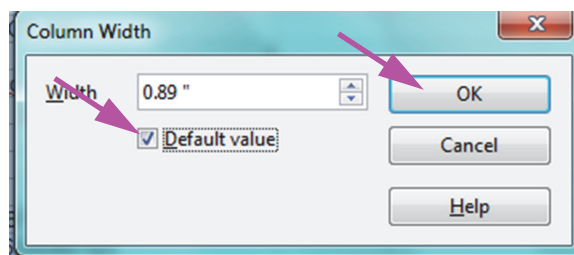

Figure 5-58. Column Width Dialog Box
7. The Column Width dialog box appears. See Figure 5-58.